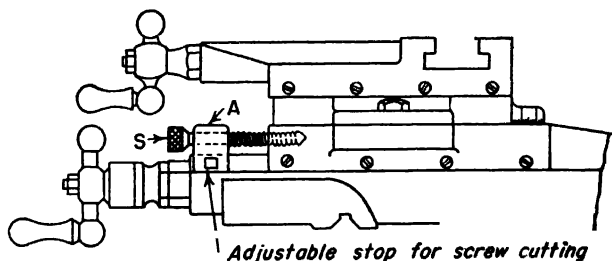

Fig. 17-23. Thread stop, *A*, for screw cutting. *S* is the adjustable screw.
**The Thread Stop.** It is usually advisable for the beginner to use the thread stop (Fig. 17-23). The thread stop *A* is arranged on